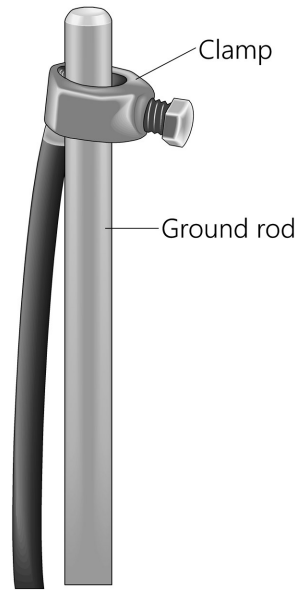

FIGURE 7-35. Ground rod and clamp
2. Loosen the bolt that attaches the clamp to the ground rod. Insert one end of the 4 AWG wire between the rod and the clamp and tighten the bolt (FIGURE 7-35 (p. 41)).